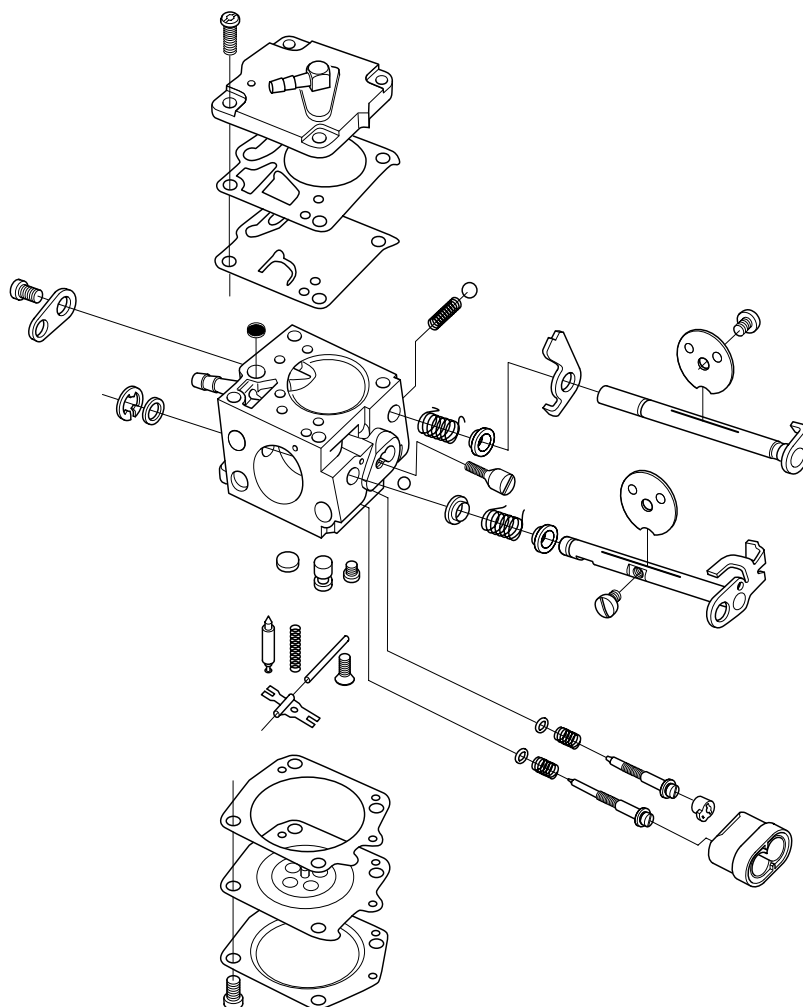

Fig. 12
11. Remove the high and low speed screws. See fig. 12.
12. If necessary, remove the throttle and choke valves and remove the spindles together with levers and springs. See fig. 12.